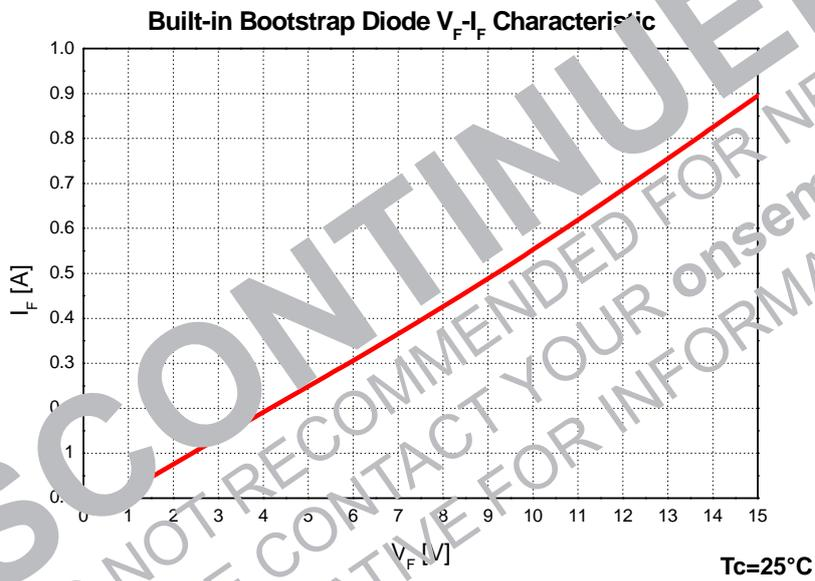

Figure 2 Built-in Bootstrap Diode Characteristics (Typical)
- Built-in bootstrap diode includes around $15\ \Omega$ resistance characteristic. Please refer to Figure 2.